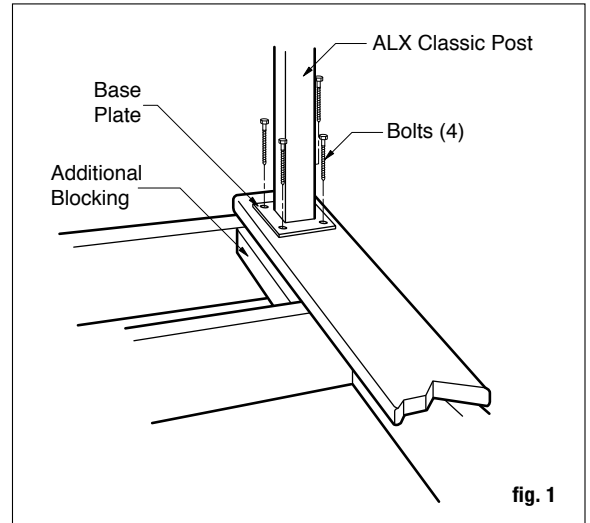

fig. 1
Step 1 Install posts by attaching the aluminum base to the surface of the deck. Position the post so the fastener will go into the floor joist, and make sure the decking is firmly attached to the joist at the location of the posts. If necessary, use wood blocking as reinforcement underneath the decking where the posts are located. Fasteners that hold the post base to the surface should be able to secure to joist or reinforcement braces, not just the decking itself. *Note: When installing aluminum post on top of a wood surface, screws must be lagged into at least 3" of solid wood. 5/4" or 1 1/2" deck boards do not provide sufficient material for a safe installation. If necessary, add additional material to the underside of the surface.(fig. 1)*
Step 3 Reposition the post assembly over the predrilled holes and insert the fasteners (not included). (fig. 1) Recommended fasteners: 4 – 5/16" x 4" or longer stainless steel lag screws.